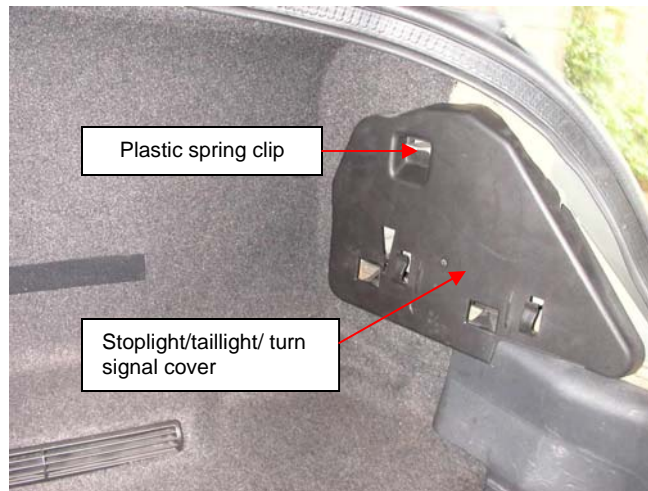

Fig. 1b XJ6
- 1b XJ6: remove the right-rear taillight/stoplight/turn signal cover by lifting up on the plastic spring clip (Fig. 1b).